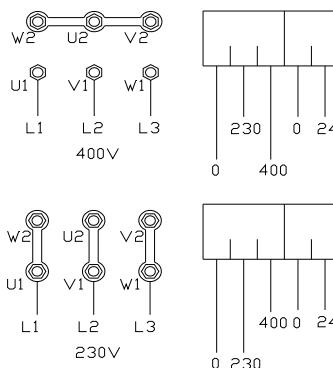

Fig.40
2. Use the electrical plant wiring plan (Pag.10) when connecting to the power supply and panel terminals. Open the control panel cover and route in the wires through one of the cable inlet holes already present. If the power supply voltage is different to the one for which the rack was designed, change the motor and transformer connections (Fig.40) . and replace the overload cut out; order the replacement unit from the manufacturer or from your local service centre.